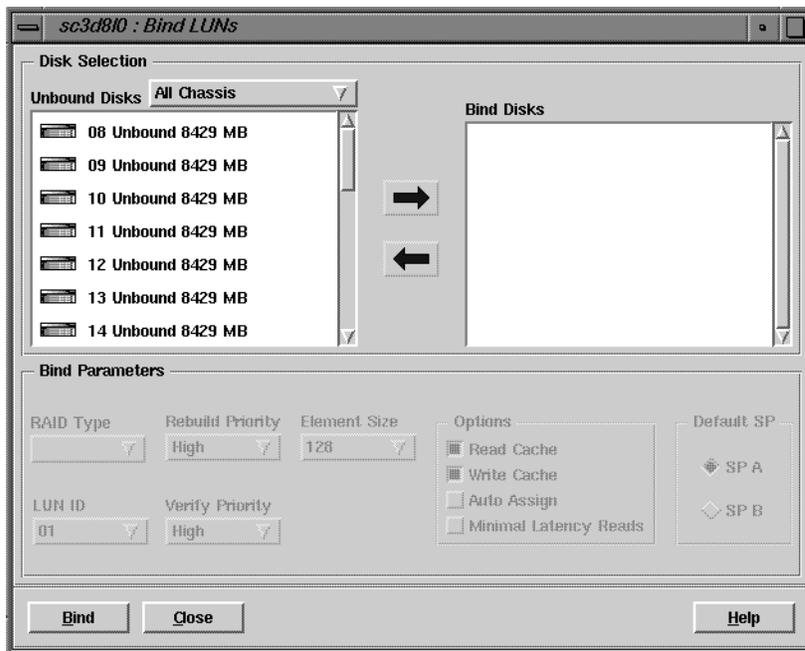

Figure 2-12 Bind LUNs Dialog
7. Open the Bind LUNs dialog for the array(s): click the button near the middle of the LUN (lower) toolbar, or choose Bind LUN from the Array menu. Figure 2-12 shows an example of the Bind LUNs dialog.